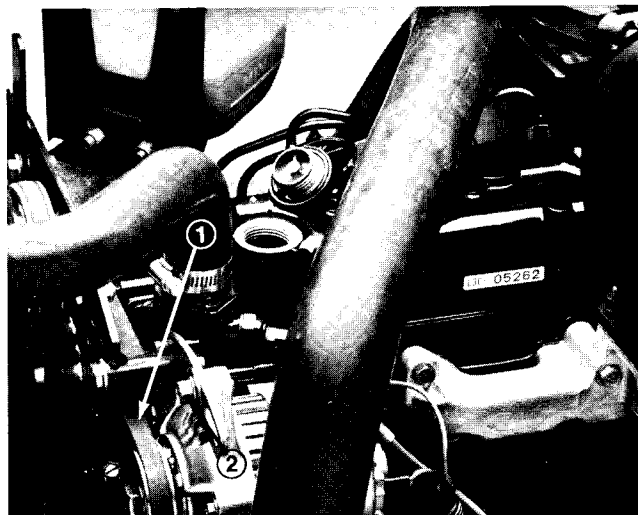

Figure 23
3. To adjust the belt tension, loosen the alternator brace bolt (Fig. 23) and alternator support bolt.